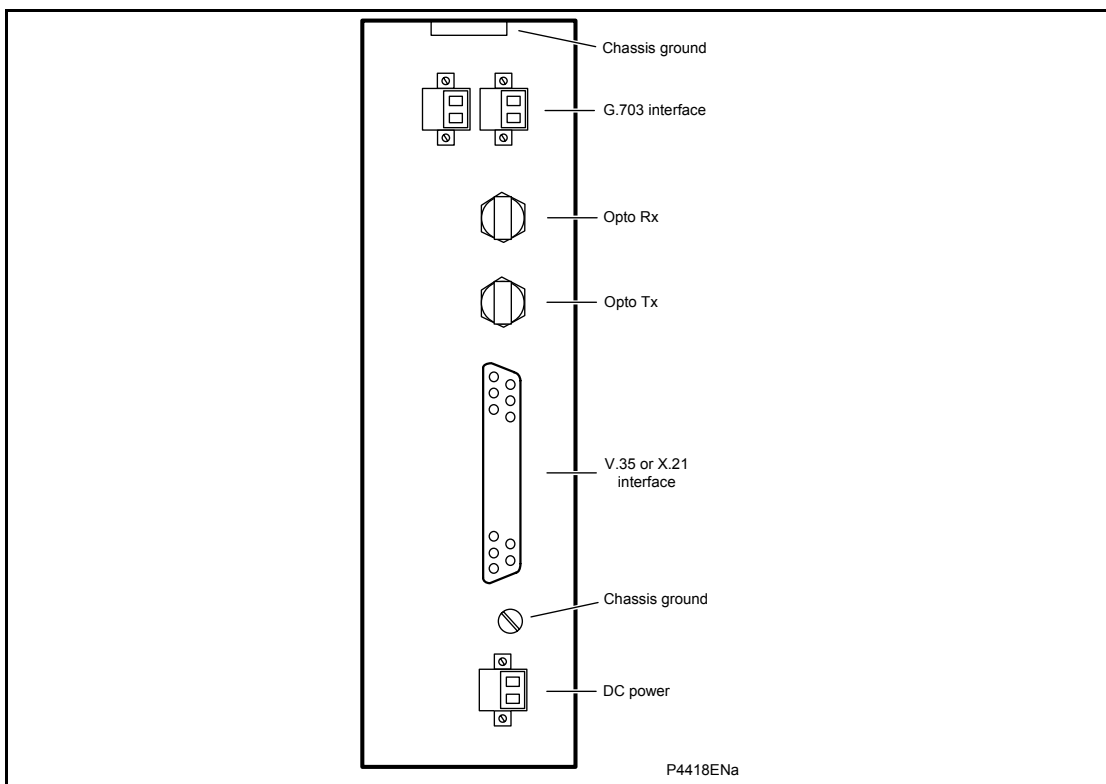

Figure 2 P591, P592, P593 rear panel
4. Ensure that the transmit (Tx) and receive (Rx) optical fibers between the P54x relay and P591 unit are connected. See Figure 2.
4. Ensure that the transmit (Tx) and receive (Rx) optical fibers between the P54x relay and P592 unit are connected. See Figure 2.